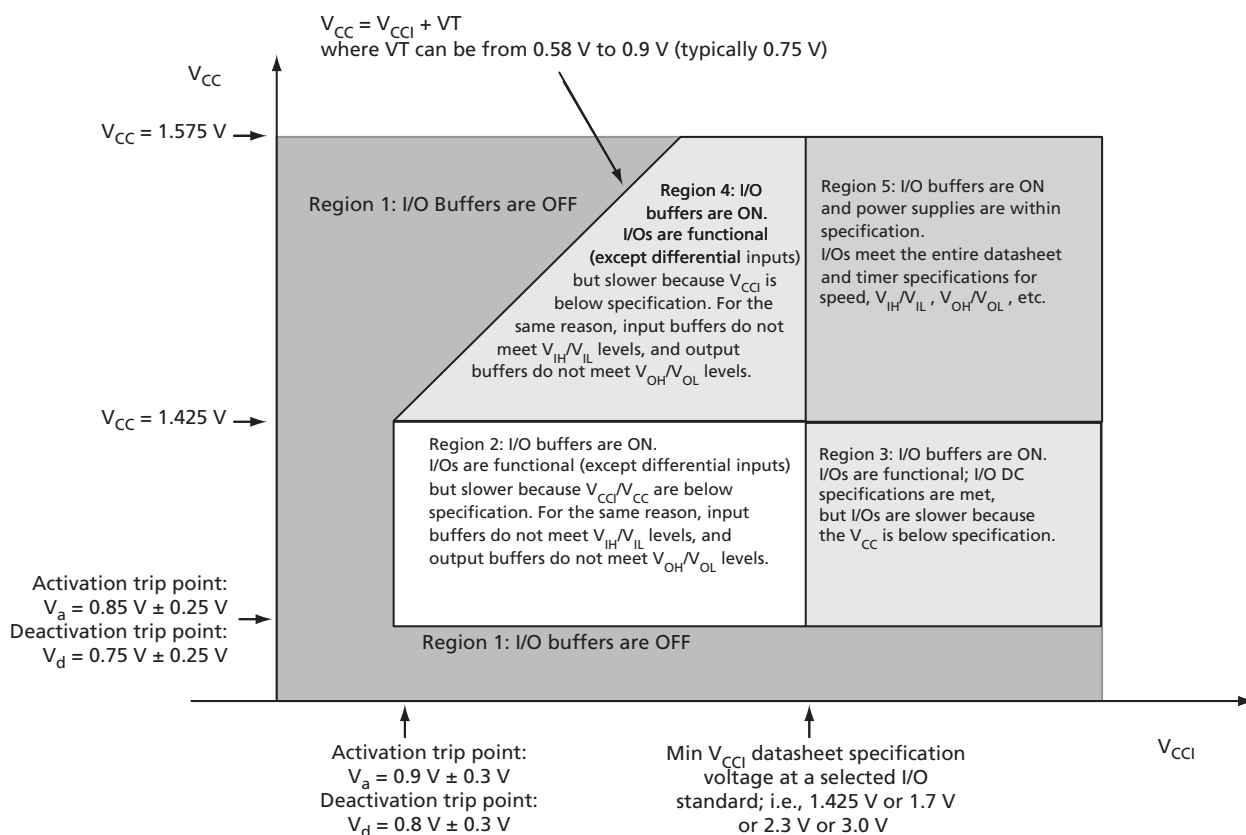
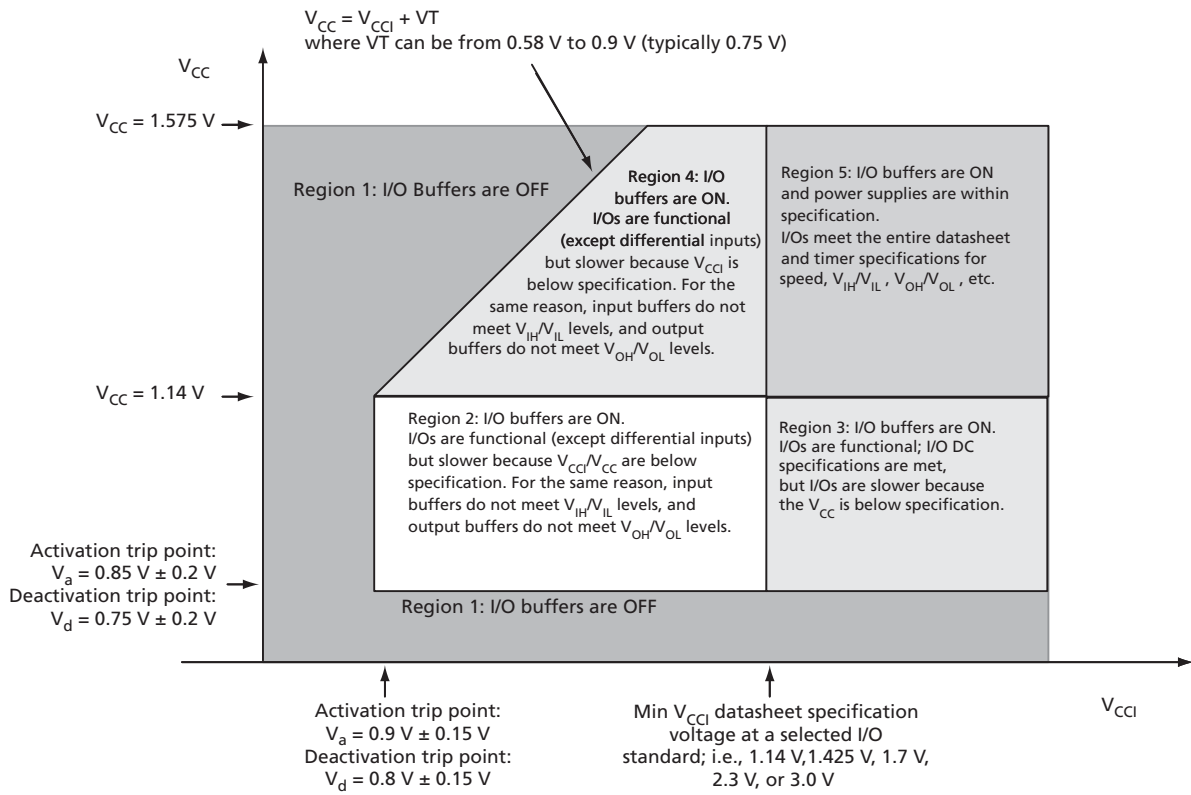

Figure 2-2 • Devices Operating at 1.5 V Core – I/O State as a Function of V_{CCI} and V_{CC} Voltage Levels
Figure 2-3 • Device Operating at 1.2 V Core Voltage – I/O State as a Function of V_{CCI} and V_{CC} Voltage Levels
Sophisticated power-up management circuitry is designed into every ProASIC[®]3 device. These circuits ensure easy transition from the powered-off state to the powered-up state of the device. The many different supplies can power up in any sequence with minimized current spikes or surges. In addition, the I/O will be in a known state through the power-up sequence. The basic principle is shown in Figure 2-2 on page 2-5 and Figure 2-3 on page 2-6.
1. V_{CC} and V_{CCI} are above the minimum specified trip points (Figure 2-2 on page 2-5 and Figure 2-3 on page 2-6).
Actel recommends using monotonic power supplies or voltage regulators to ensure proper power-up behavior. Power ramp-up should be monotonic, at least until V_{CC} and V_{CCPLX} exceed brownout activation levels. The V_{CC} activation level is specified as 1.1 V worst-case (see Figure 2-2 and Figure 2-3 on page 2-6 for more details).